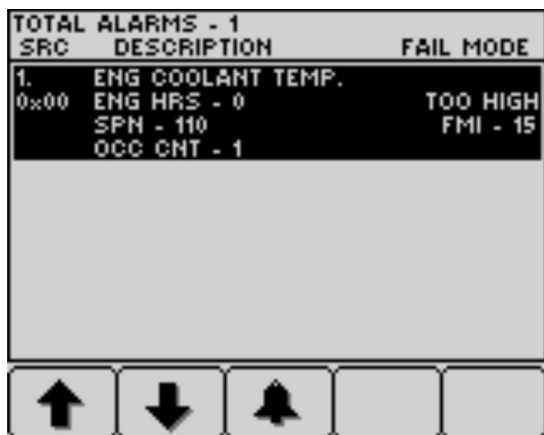

Figure 80
3. Press button 1 through 5 to view the active fault list (Figure 80).
4. Press button 1 through 5 to view the active fault list ; refer to Figure 80 in Engine Advisories Messages (page 43).